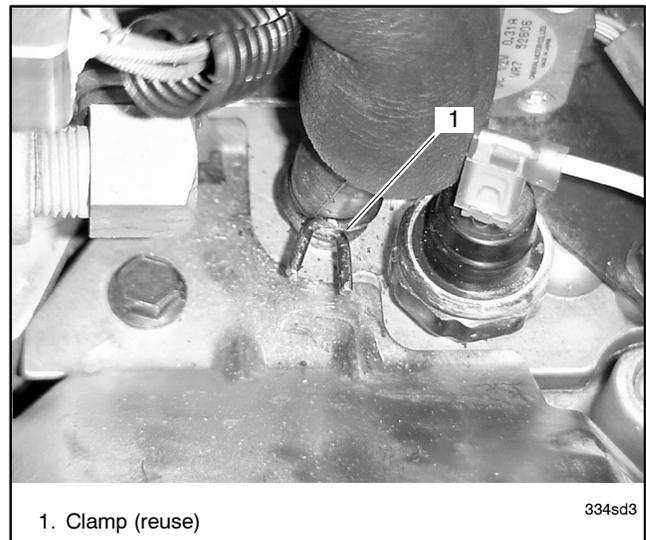

Figure 14 Breather Hose Clamp
5. Use the clamp removed in step 2 to attach the breather tube to the breather nipple on the engine crankcase. See Figure 14.